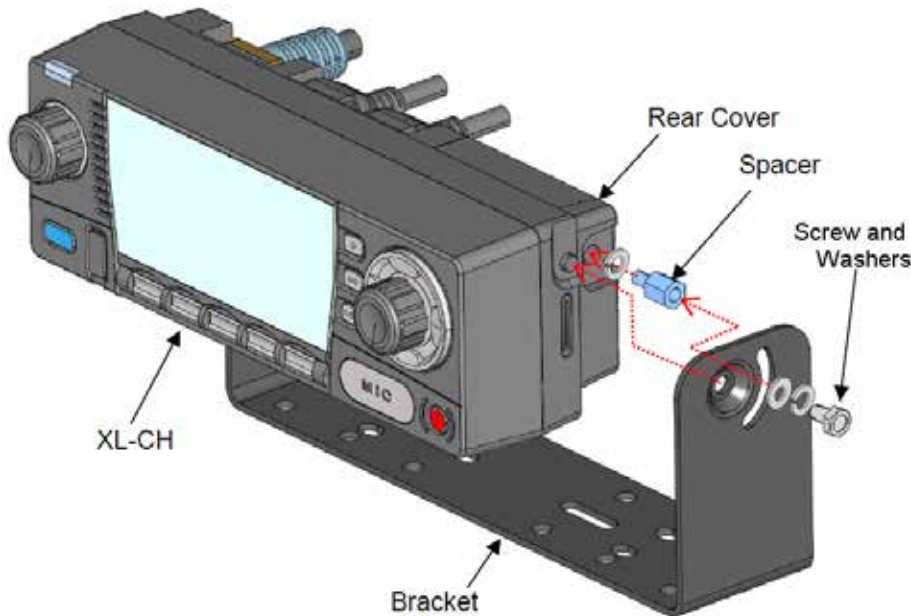

Figure 9-11: Install the XL-CH into the Bracket
6. Referring to Figure 9-11, install a hex spacer and lock washer on each side of the XL-CH and torque to 5.85 Nm using the 7mm Hex Socket or Socket Bit. Slide the XL-CH into the bracket and secure with the locking screw.